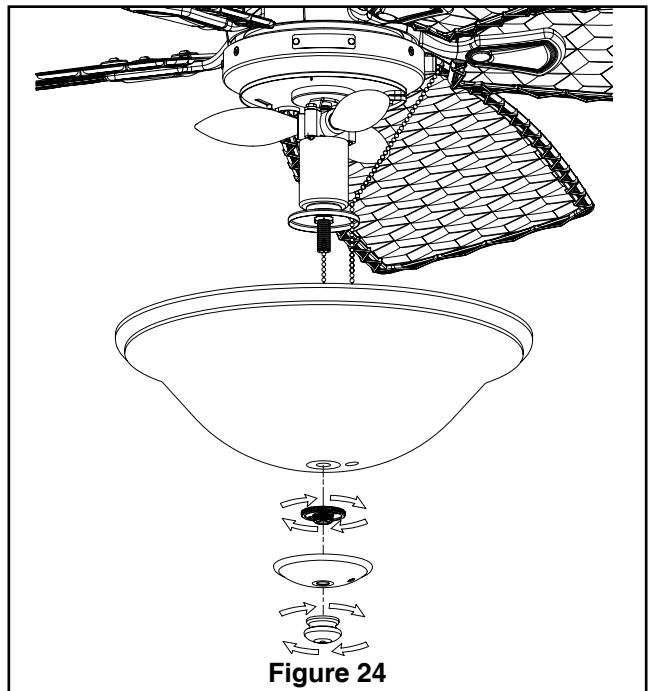

Figure 24
2. disassemble the finial, trim cover and nut. Then secure glass bowl to light fitter using supplied nut. Next, install trim cover followed by the finial. Do not over tighten. (Figure 24)